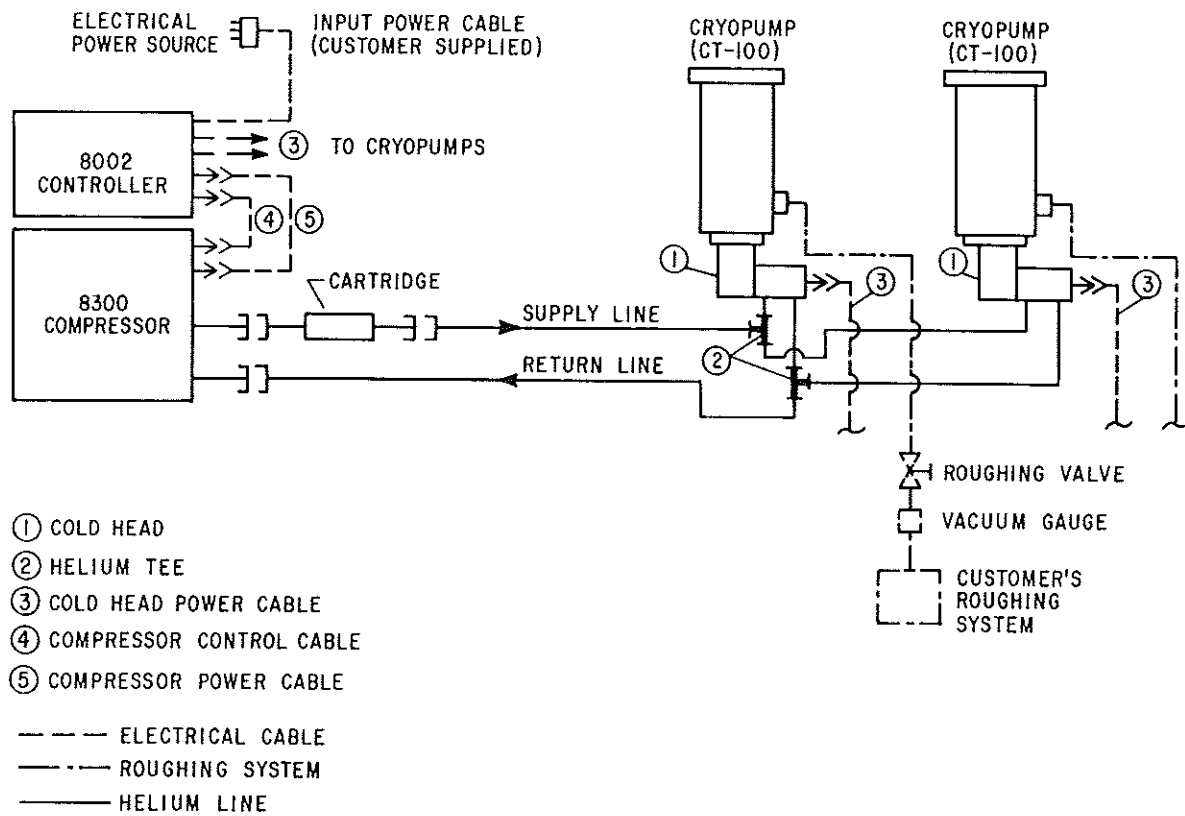

Figure 4.1 Multiple cryopump installation with 8300 Compressor powered by 8002™ Controller
1. Connect the multiple cryopump system as shown on Figure 4.1. This figure depicts a typical multi-cryopump installation with an 8300 Compressor and 8002 Controller. Note that the cable is connected from the controller to each cold head; also, the components are helium connected in parallel (all supply fittings piped together).